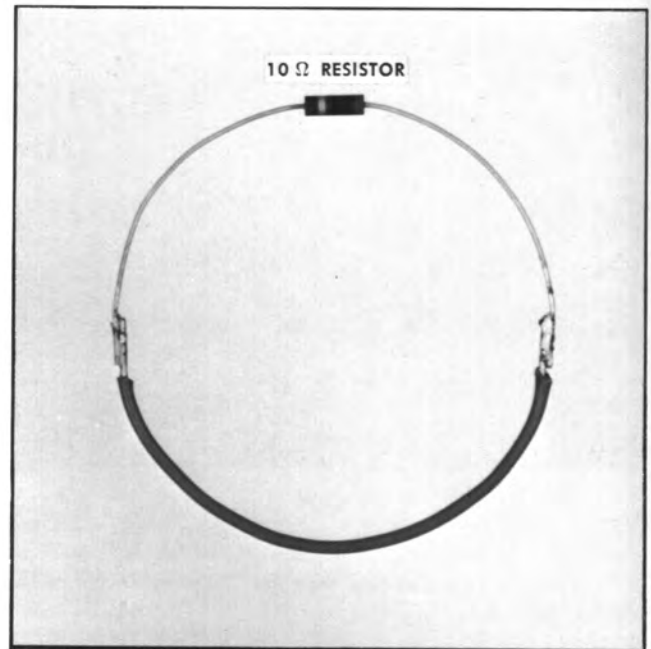

Fig. 6-8. 10  $\Omega$  closed loop.
b. Construct a 10  $\Omega$  closed loop, using a short piece of wire and a 10  $\Omega$  resistor. See Fig. 6-8.